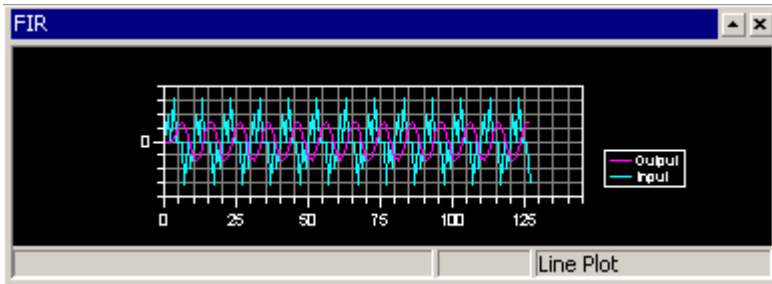

Figure 2-28. Plot Window After Running the FIR Program to Completion
5. Right-click in the plot window and choose **Modify Settings**. On the **General** page, in the **Options** group box, select **Legend** to display the legend box (shown in Figure 2-28 on page 2-40).
When the program halts, you see the results of the FIR filter in the Output array. The two data sets are visible in the plot window, as shown in Figure 2-28 on page 2-40.